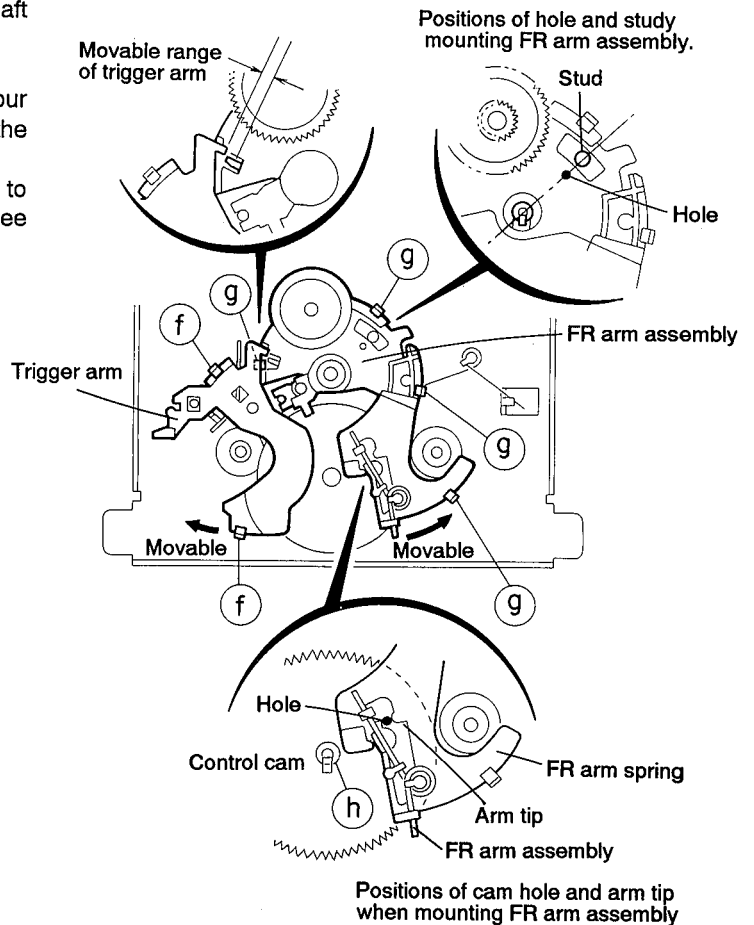

Fig. 5-46
3. While opening the two pawls ⑥ fixing the trigger arm in the arrow direction, remove the arm from the clamp shaft (See Fig. 5-46).
5. Remove the FR arm spring, and while opening the four pawls ⑦ fixing the FR arm toward outside, pull out the FR arm assembly (See Fig. 5-46).
6. While aligning the engagement ⑧ of the control cam to the center of bearing hole, pull out the control cam (See Fig. 5-46).
**Caution 1:** The positions of the hole and stud in Fig. 5-46 should be aligned so carefully for mounting the FR arm assembly (See Fig. 5-46).